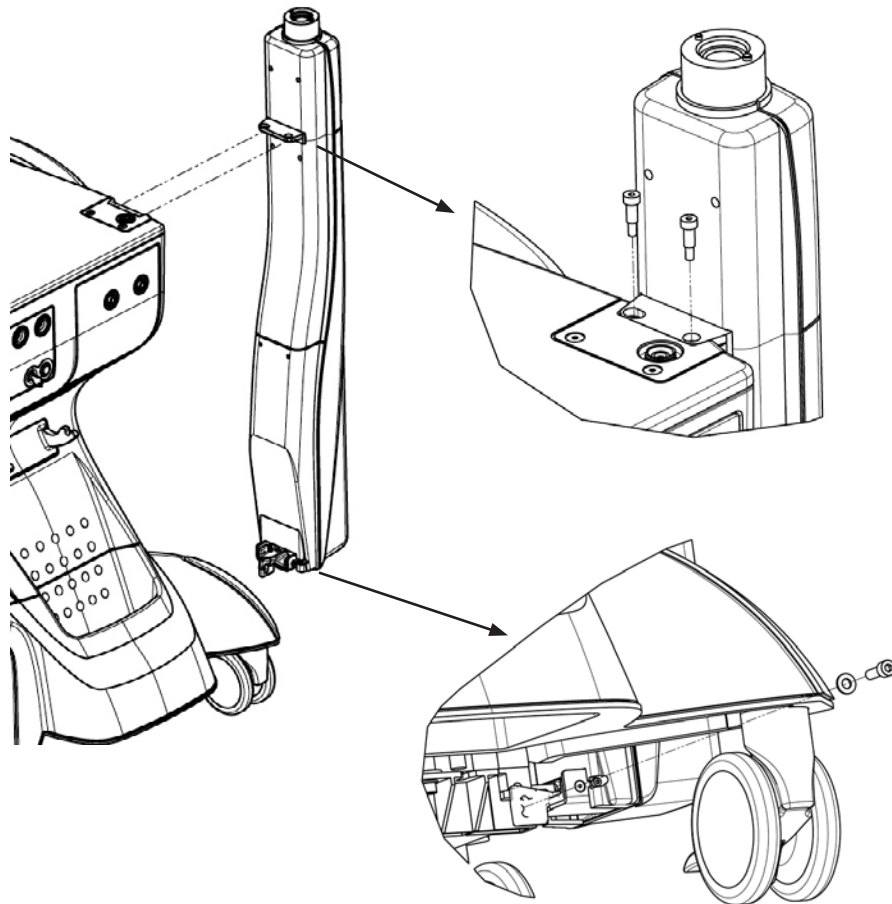

Figure 7-6. Tray Tower Installation
- 14 Attach upper part of tray arm tower to base console using two hex screws (see Figure 7-6).
- 15 Attach lower part of tray arm tower to base console using one hex screw and lock washer (see Figure 7-6).